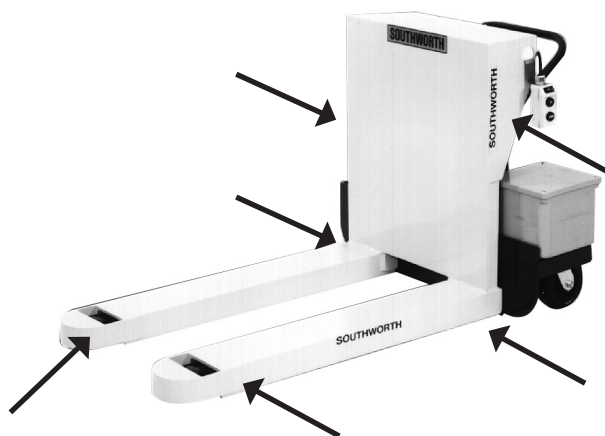
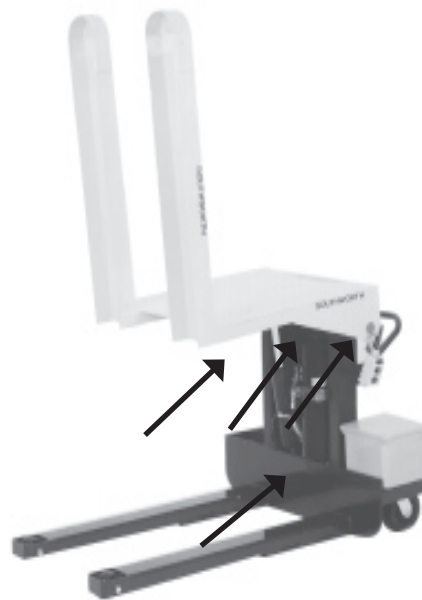

Fig. 2a Pinch points—Tilt platform lowering
Fig. 2b Pinch points—Tilt platform raising
- As the unit is operating, stay away from the moving parts shown in Fig. 2a and Fig. 2b.
As the tilt platform moves up and down, "pinch points" are created as shown in Fig. 2a and Fig. 2b. Stay away from these pinch points! Part of your body or clothing may become caught, and you may be hurt. Do not put your hands or feet under the tilt platform. Do not stand or sit on the tilt platform.
As the tilt platform moves up and down, “pinch points” are created as shown in Fig. 2a and 2b. Stay away from these pinch points! Part of your body or clothing may become caught, and you may be hurt.